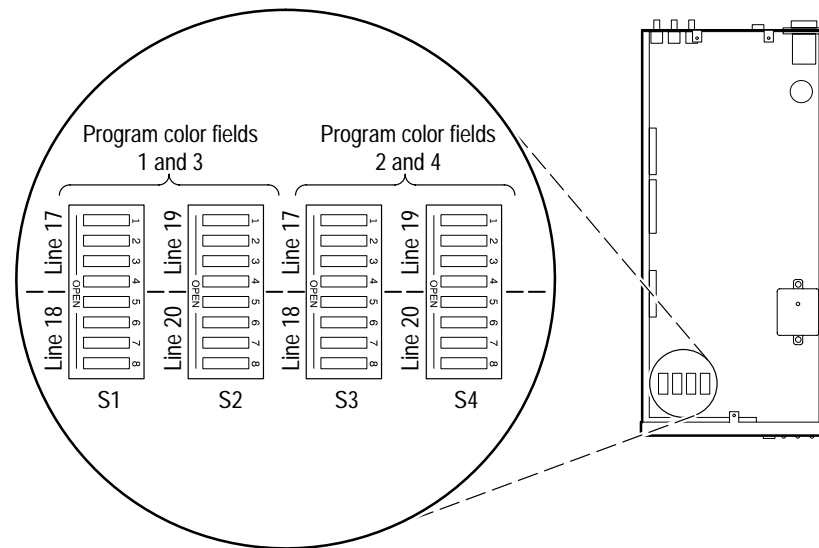

Figure 6–3: VITS selection DIP switches
5. Connect a 75 Ω coaxial cable from the VITS inserter PROGRAM OUT to the waveform/vector monitor Ch A input. Terminate the remaining side of the loop-through input with a 75 Ω end-line terminator. See Figure 6–2.
1. Connect the test signal generator to the CH A input of the waveform/vector monitor with two 75 Ω coaxial cables and a female-to-female BNC connector as shown in Figure 6–4. Terminate the remaining side of the monitor loop-through with a 75 Ω terminator.